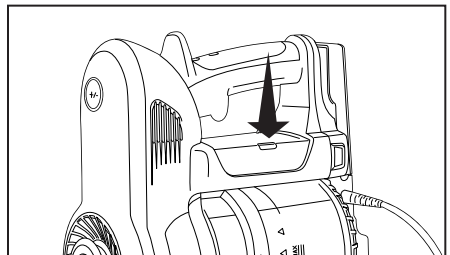

Fig. 4
2. Plug the battery charger into the Storage/Charging Station and into an electrical outlet (Fig. 3). The indicator light on the battery will be red while the battery is charging. When the indicator light is blue, the battery is fully charged (Fig. 4). Charging time is approximately 4-5 hours.